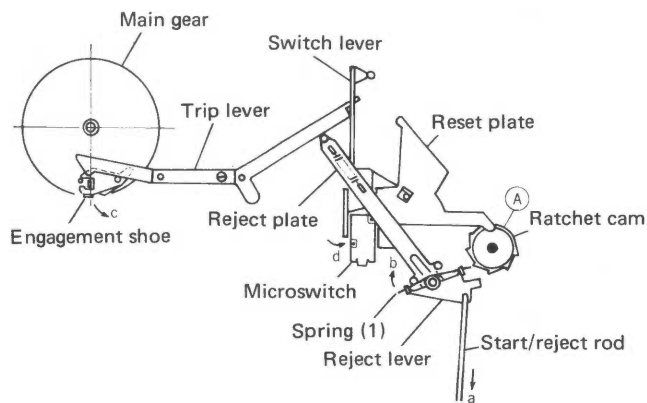

Fig. 16
If the START/REJECT lever is pushed toward "REJECT" while a record is playing, the start/reject rod moves in the direction of arrow (a), and the reject plate and trip lever are pushed by the spring (1), as shown in Fig. 16. As a result of this, the engagement shoe is moved out in the direction of arrow (c), beginning the change cycle.